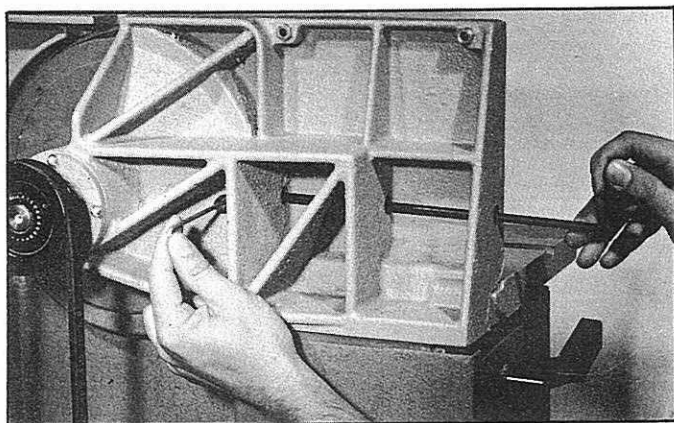

Fig. 23 C
7. Loosen the set screw that holds the roughing cutter and using one of the other wrenches or something similar, apply light pressure to the back of the cutter, as shown in Fig. 23-C, until the front end of the cutter just touches the cutter setting gage. Then lightly tighten the set screw that holds the cutter in place.